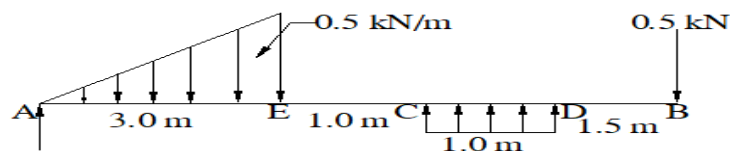

Figure 5
- 4 a) A beam AB 6.5 m long and supported at A has a simple support of 1 m length between C and D. Assuming a uniformly distributed reaction between C and D, draw the Bending Moment and Shear Force diagrams for the loading shown in figure 5. 12